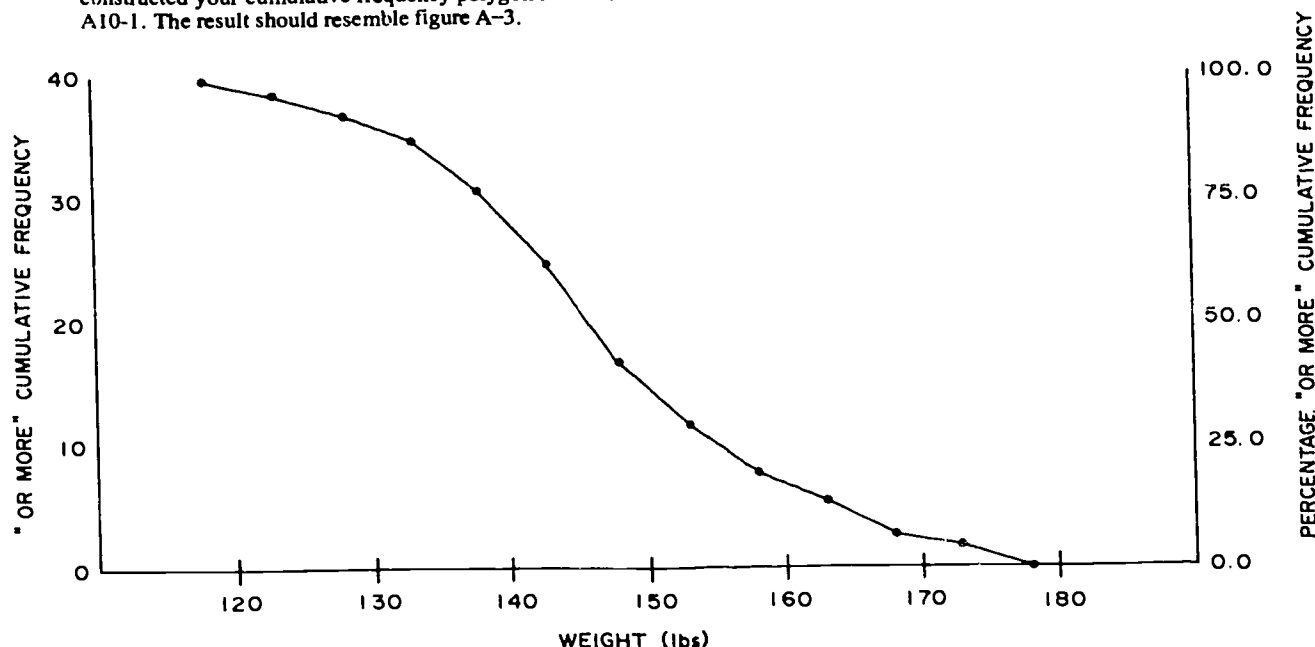

Figure A-3. "Or more" cumulative frequency ogive (objective A10, exercise 2).
- c. Construct your "or more" ogive in the same manner you constructed your cumulative frequency polygon in exercise A10-1. The result should resemble figure A-3.